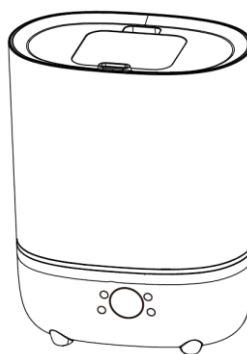

Fig. 5
4. Close the water filling cap and plug in the device (fig. 5)